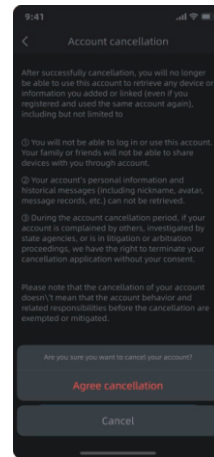

Figure 11
11) Figure 11: Click "**Agree cancelation!**" to cancel the account, return to the login page, and no longer be able to log in with this account;Click "**Cancel**" to keep the account.